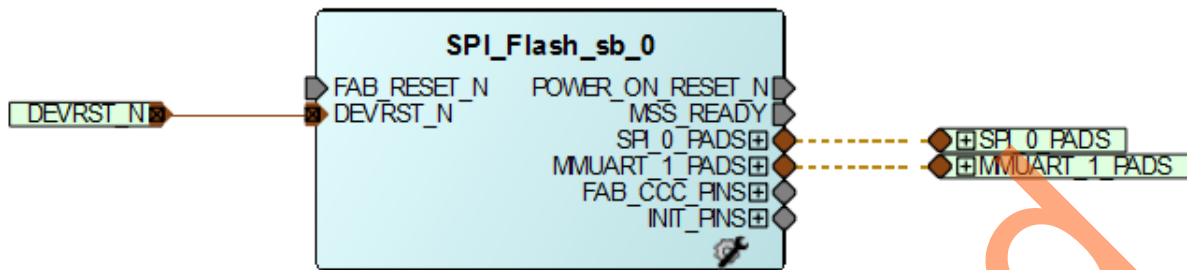

Figure 10 • SPI\_Flash Smart Design
19. Select **File > Save** to save **SPI\_Flash**. Select the **SPI\_Flash** tab on the Smart Design canvas, as shown in Figure 10.